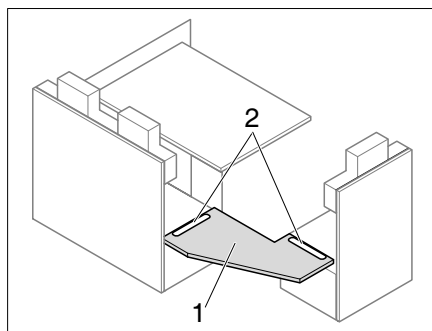
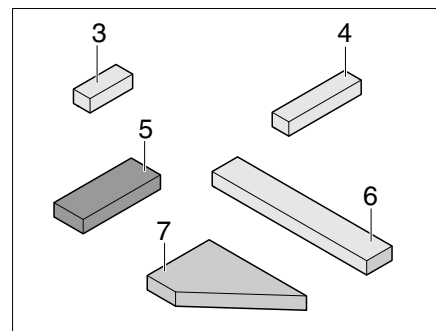
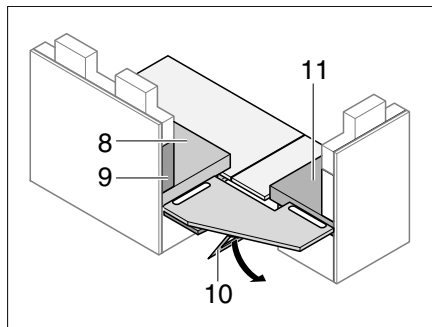
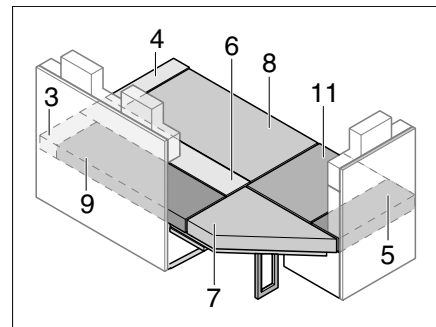

Fig. 183 Inserting the reinforcement panel
Fig. 184 Additional cushion
Fig. 185 Supporting reinforcement panel
Fig. 186 After conversion
- Insert the reinforcement panel (Fig. 183,1) into the grooves (Fig. 183,2).
- Fold out the support (Fig. 185,10) under the reinforcement panel (Fig. 183,1).
- Lay on the seat, backrest and additional cushions as shown in Fig. 186 (the item numbers refer to Fig. 184 and Fig. 185).
- Fold out the bench seat extensions (Fig. 183).